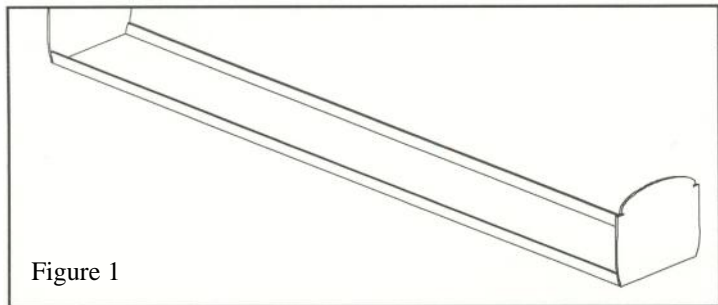

Figure 1
1. Fold up the floorpan as shown in fig 1. It is suggested that the side lips are folded first using a pair of folding bars such as those supplied by Blacksmith Models or George Watt.